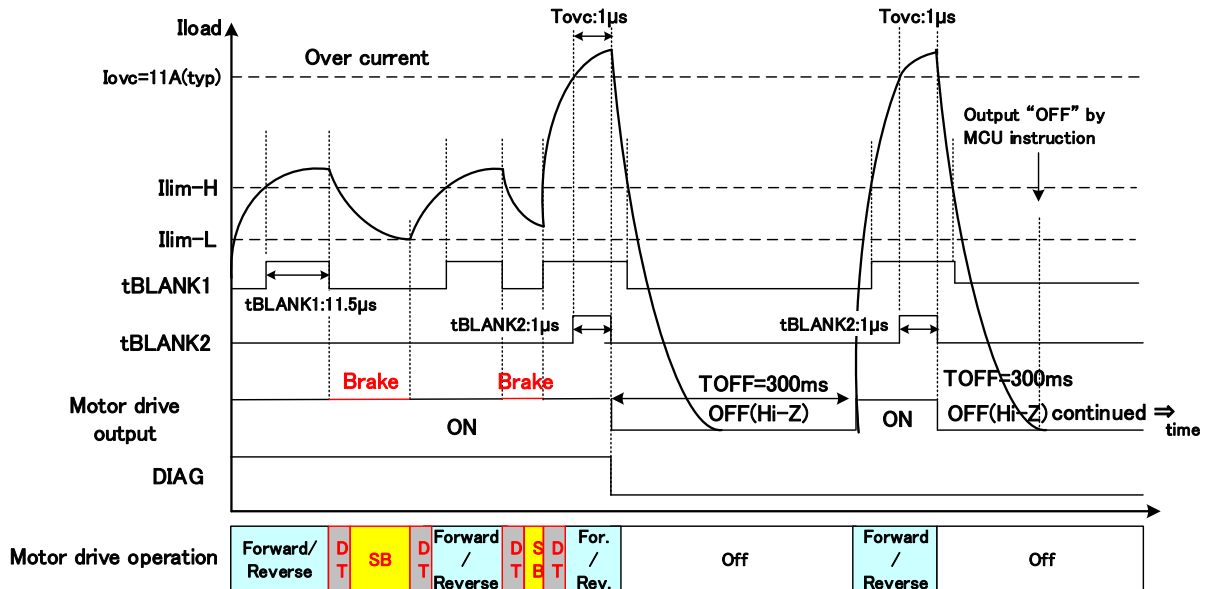

Figure 7.42 Over-current detection operation for short-circuit to power supply or ground, and short-circuited load: timing chart 1
7.15. Circuit to detect over-current caused by short-circuit to power supply or ground, or short-circuited load (Figure 7.42, Figure 7., and Figure 7.)